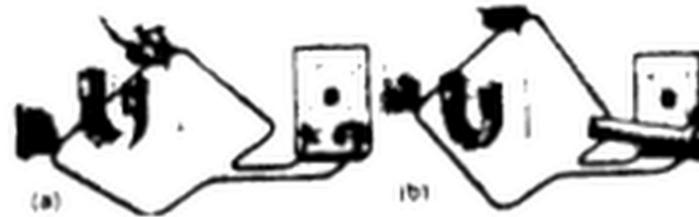

Fig. 15.13 Demonstration of electromagnetic induction by the movement of a wire loop in the magnet field
1) Now, move the wire downward through the field, current is induced in one direction (fig. 15.13 a).
ii) Now move the wire upward through the field, current is induced in the opposite direction (fig 15.13 b).